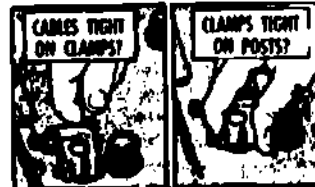

Fig 1-72. Double check your work.
- Cable ends tight on clamp? (fig 1-72)
- Clamps tight on battery post? (fig 1-72)